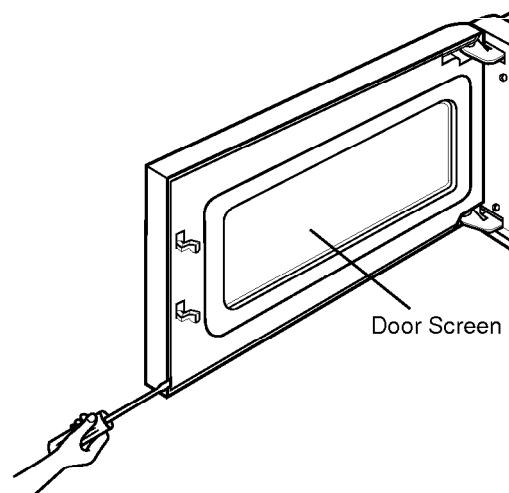

Figure 25
H. DISASSEMBLING DOOR (Figure 25)
- (1) Remove the dielectric choke by using knife blade or small screw driver, etc.
- (2) Remove two screws securing it to the door handle.